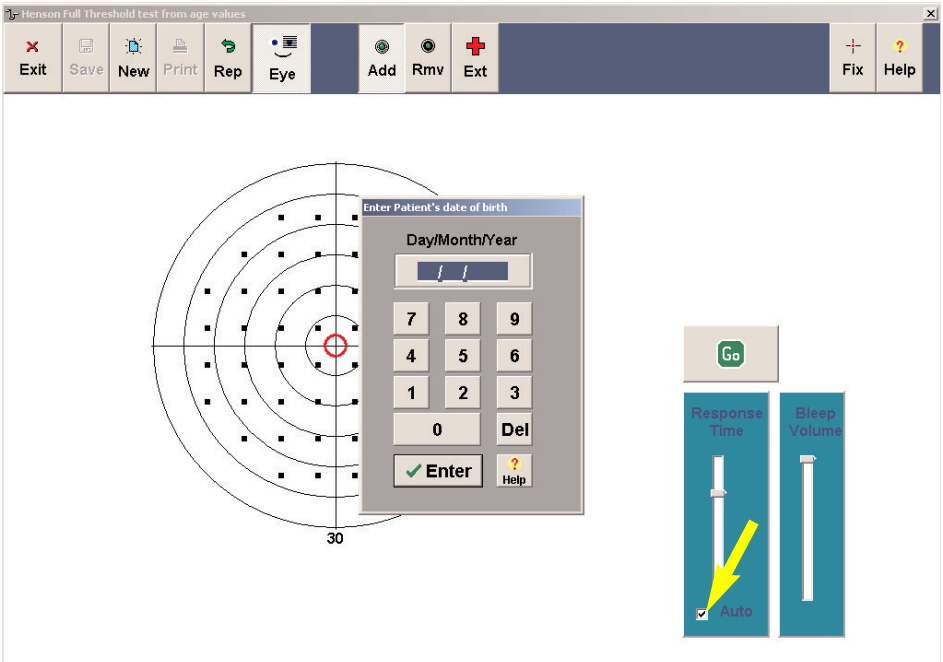

Figure 9. Full Threshold 24-30/2 NEW patient screen showing the enter patient DOB box.
- Threshold Values (default)** - (see Fig. 9 on next page)